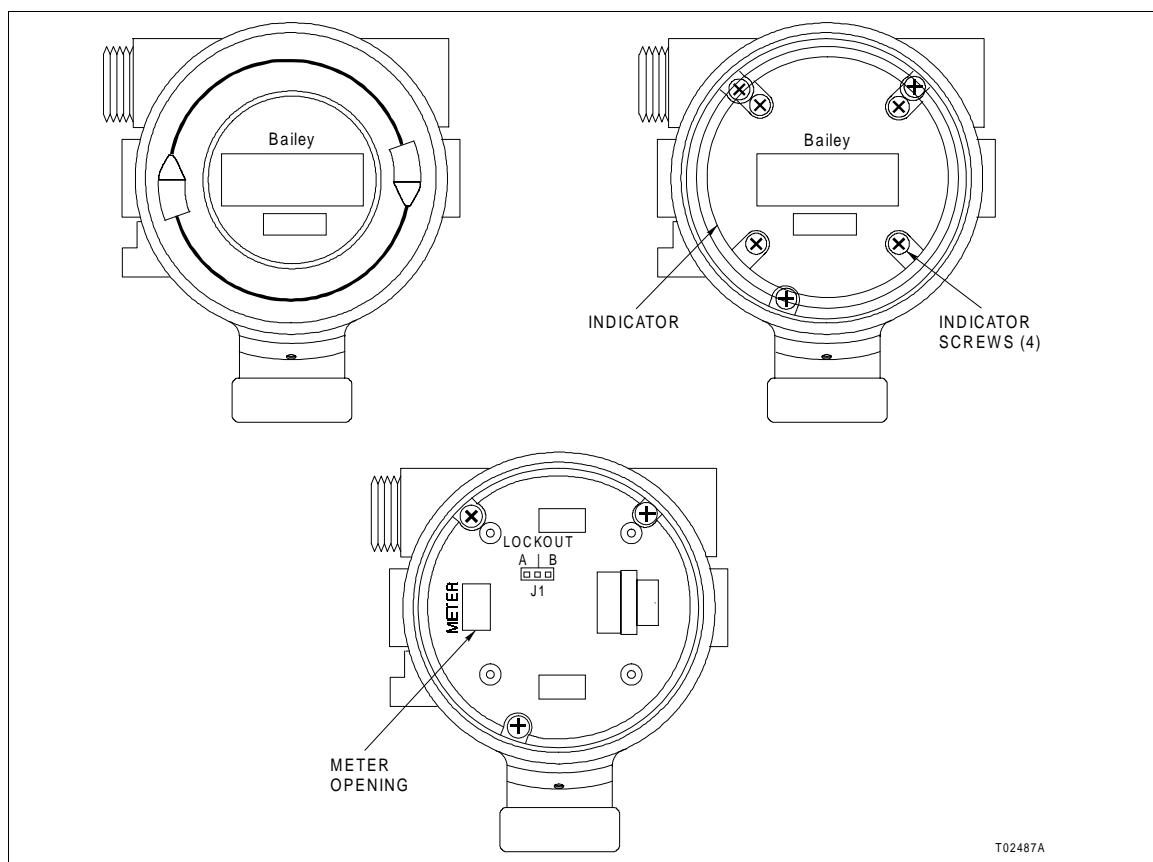

Figure 3-3. Indicator Orientation
3. Remove the four indicator screws (Fig. 3-3).
5. Align one of the connectors on the back of the LCD with the meter opening in the amplifier assembly to get the desired viewing orientation (Fig. 3-3).